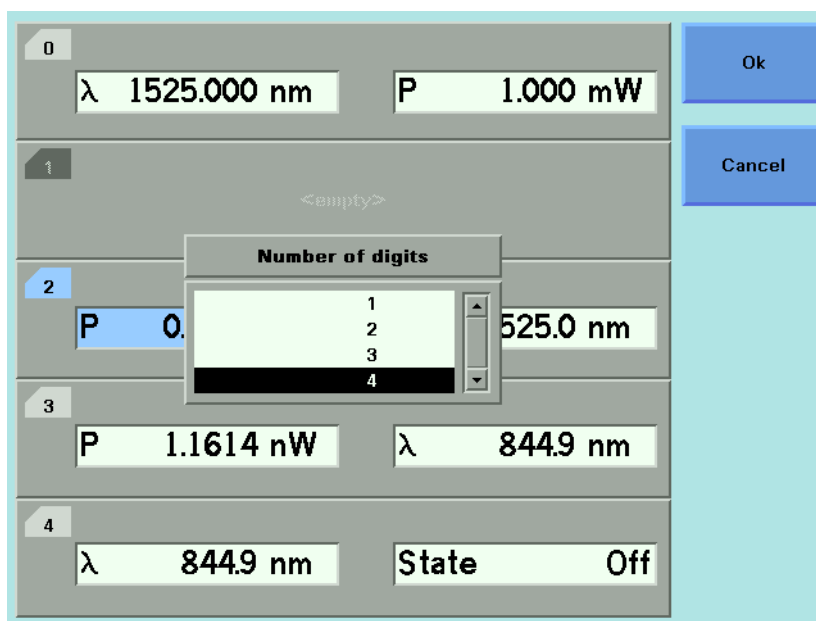

Figure 41 The Number of Digits Menu
- 2 Move to $\langle \text{Number of Digits} \rangle$ option and press *Enter*. You will see the screen in Figure 41 .